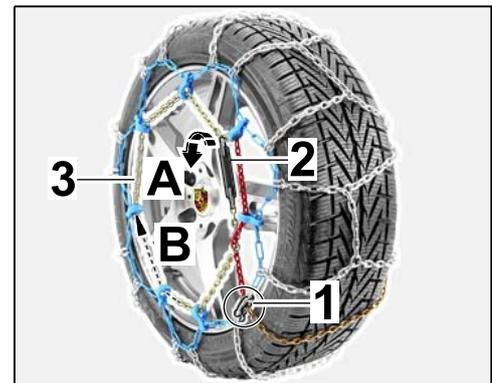

Figure 13
3.1.1 To make it easier to remove the snow chain: Drive/roll the vehicle until the locking plate for the snow chain is positioned according to ⇒ *Figure 13-circle*.
3.1.2 Disengage bungee cord with hook from the chain link (⇒ *Figure 13-A*.)
3.1.3 Feed the tensioning chain through the plastic eyelets as far as the locking plate (⇒ *Figure 13-B*.)